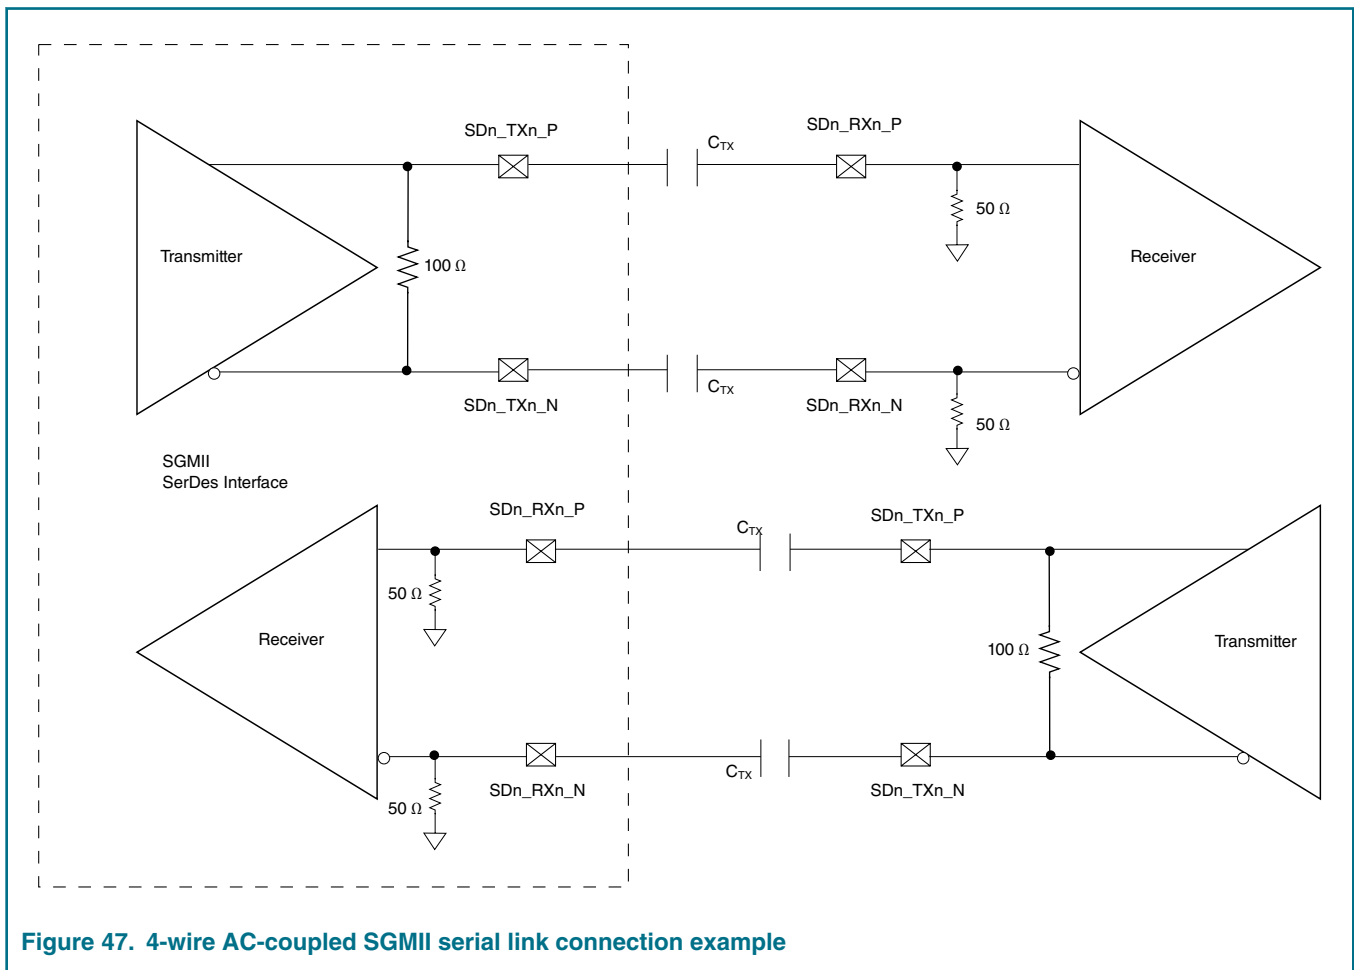

Figure 47. 4-wire AC-coupled SGMII serial link connection example
Each SGMII port features a 4-wire AC-coupled serial link from the SerDes interface of the chip, as shown in Figure 47, on page 150, where C_{TX} is the external (on board) AC-coupled capacitor. Each SerDes transmitter differential pair features 100-Ω output impedance. Each input of the SerDes receiver differential pair features 50-Ω on-die termination to XGND n . The reference circuit of the SerDes transmitter and receiver is shown in Figure 44, on page 132.
12. See Figure 47. on page 150.